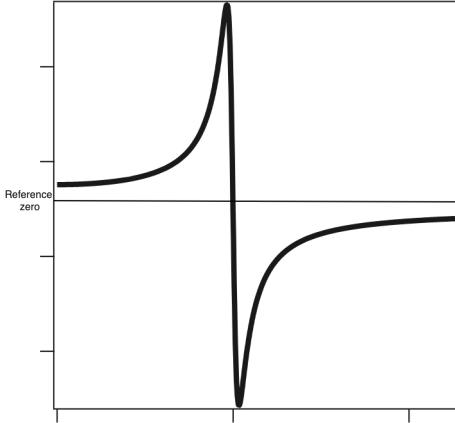

Figure 38: Dispersion curve shape (adapted from <http://users-phys.au.dk/philip/pictures/physicsfigures/>).
4. Leave the modulation amplitude as 1 V (default setting) for now. (This does not affect the digital modulation output, which is fixed at 3.3 V peak-to-peak.) Increasing the modulation amplitude will change the shape of the dispersion-like (see figure 38) error signal as well as the capture range. Proper amplitude can be found after one is able to display the dispersion-like signal on a scope (that is, after step 13).
- Turn on the ramp (this disables the lock servo loops). Look at the error signal on an oscilloscope. Measure the peak-to-peak amplitude of the (reference-) zero-crossing error signal as well as the time difference between the positive peak and the negative peak of a single dispersion-shaped line (see figure 38). With the same ramp amplitude and frequency, also measure the time difference between successive positive or successive negative peaks (that is, across a full free spectral range (FSR) of the cavity). With a known FSR of the cavity, we can work out the conversion factor between the amplitude of the error signal near the zero-crossing and the change in laser frequency,  $\frac{df_{\text{laser}}}{dV}$ . Make sure the same spectral line with the same amplitude is measured here as is used for locking the laser, since the amplitude of the peak will affect this conversion factor.